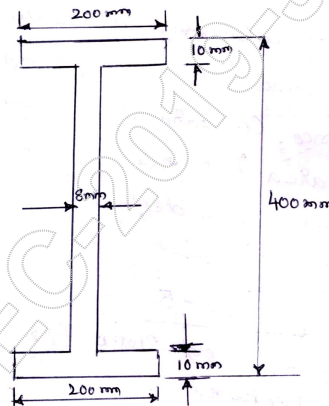

Fig.Q.8(b)
b. The cross-section of a beam is as shown in Fig.Q.8(b). If permissible stress is 150N/mm^2 . Find its moment of resistance. Compare it with equivalent section of same area but